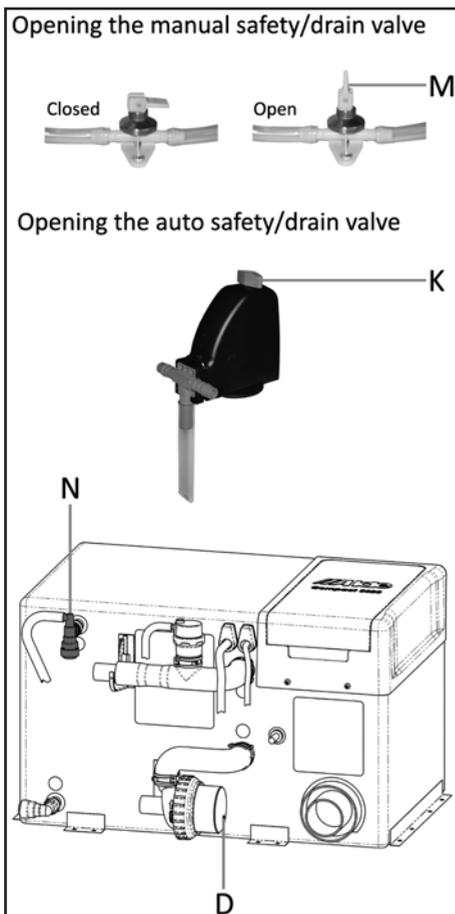

Fig.1
- Open the safety/drain valve by lifting the yellow tab (Fig.1 [M]) or by turning the blue knob (Fig 1.[K]) 90°.
Check that the red breather valve (Fig.1 [N]) is allowing air to enter the hot water cylinder when it is being drained, and that the clear plastic hose is not obstructed.
- Set the 12v inline circulation pump on the side of the boiler to speed 5 (Fig.1 [D]): see page 62, by turning the blue speed dial clockwise, on the face of the pump motor. NB: Speed is not adjustable if using the 12v circulation pump fitted in the expansion tank.